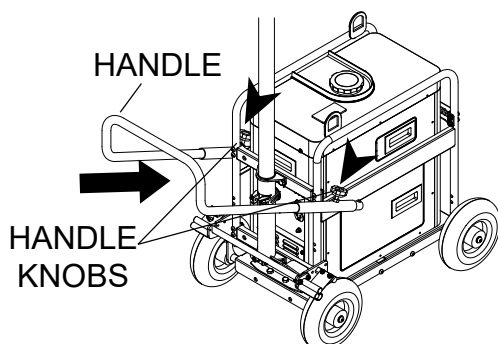

Figure 32. Stowing the Handle
1. Loosen the handle knobs on both sides of the cart (Figure 32).